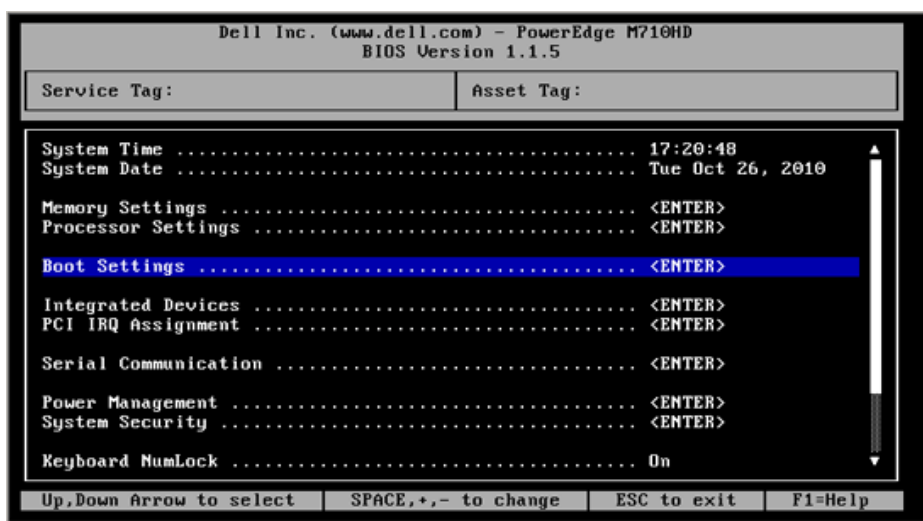

Figure 5: Dell BIOS: Boot Settings
11. Select **Boot Settings**, and then press the ENTER key (Figure 5).